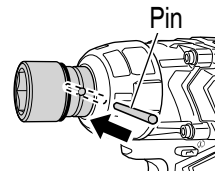

Fig. 10
- (2) Insert the pin into the socket. (Fig. 10)